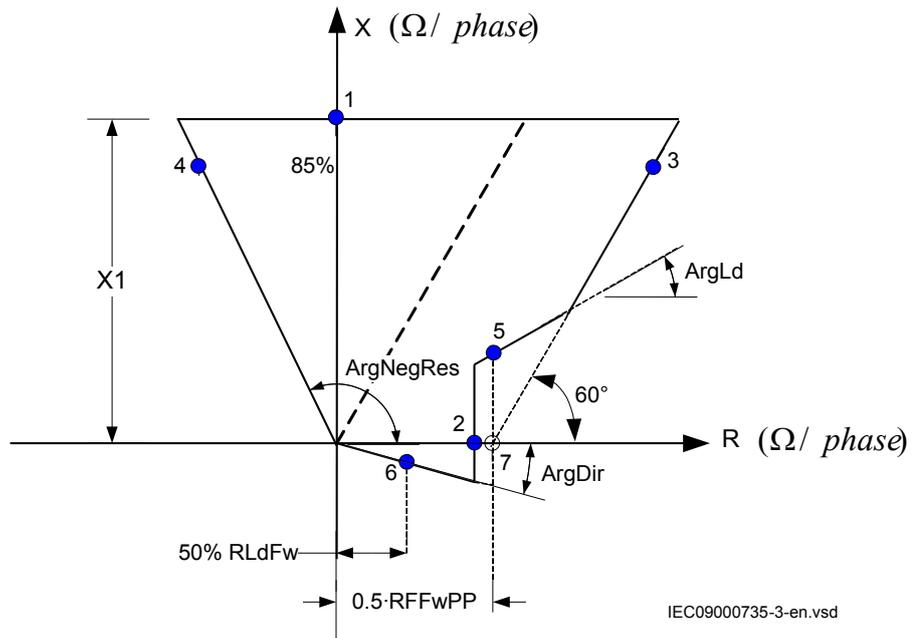

Figure 58: Operating characteristic for phase selection function, forward direction phase-to-phase faults
Table 24 is used together with figure 58.
- Repeat steps 1 to 3 to find the operate value for the phase-to-phase fault in L1 — L2 according to figure 58 and table 24.